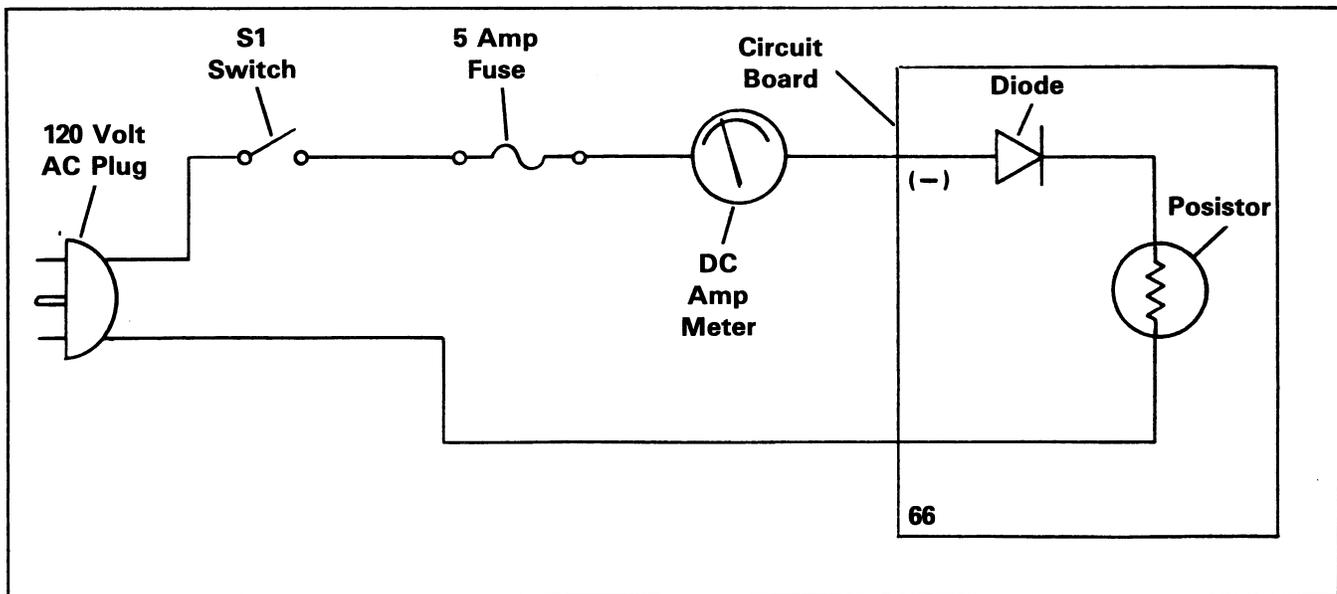

Figure 2-8. Flashing Board Test
1. Connect the components as shown in Figure 2-8.
a. Using a DC amp meter on the DC milliamp scale, the circuit should read less than 30 milliamps (DC). If not, circuit board should be replaced.